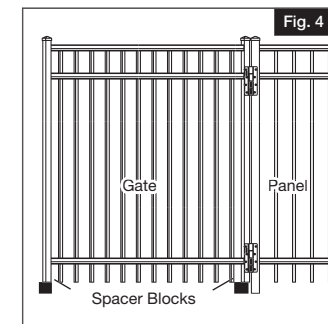

Fig. 4
- Set gate on spacer blocks and hold it level/plumb to the gate post (Fig. 4).